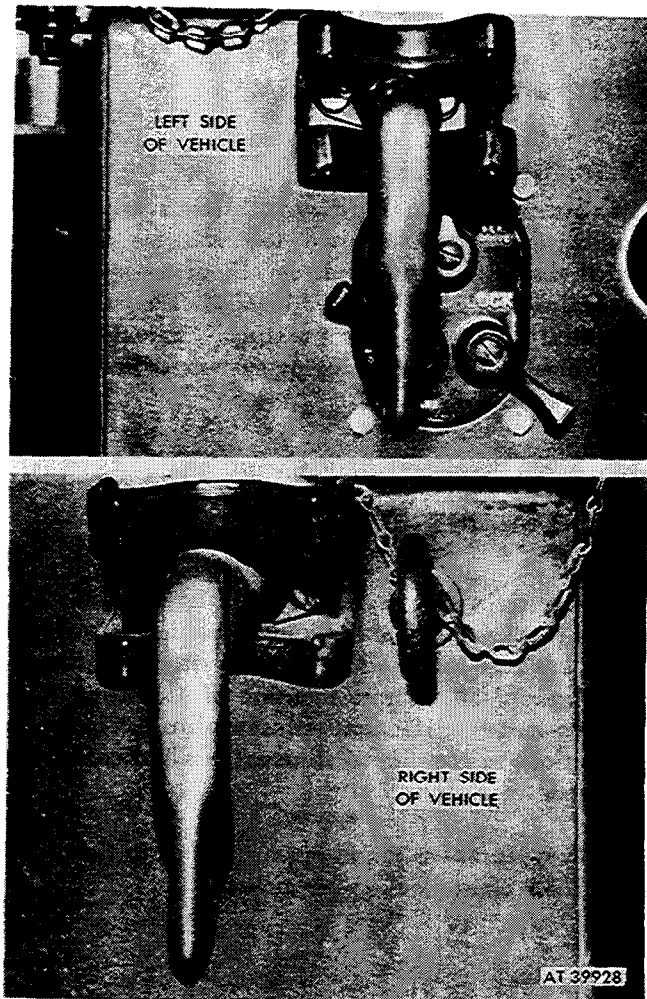
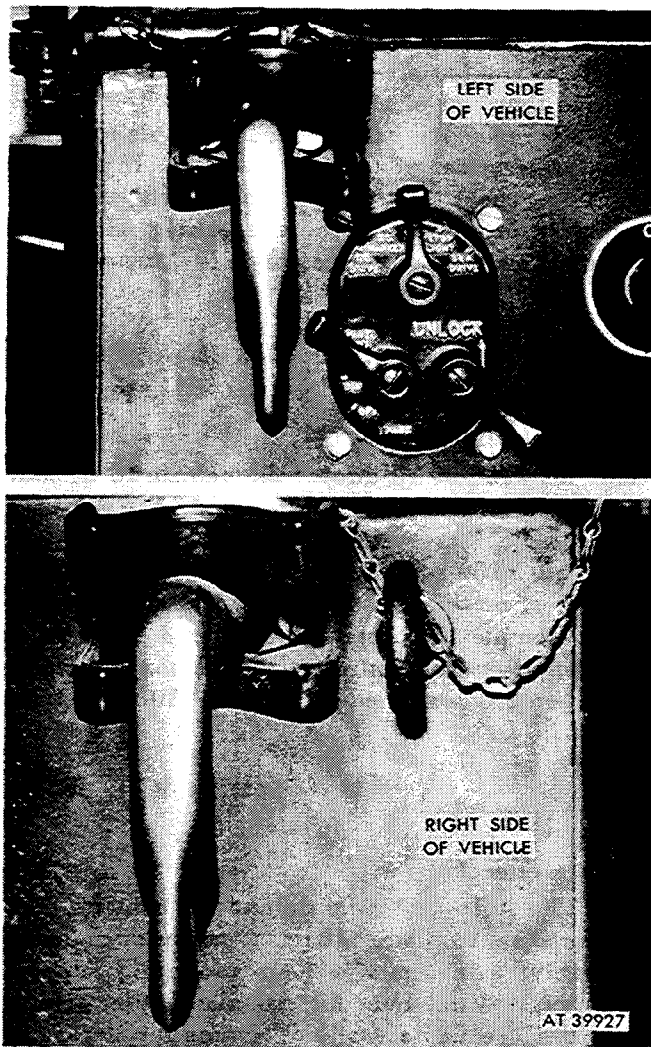

Figure 3-33. M16 / F4 rifle mount kit—installed, left and right side (softtop vehicles).
Figure 3-34. M16 / F4 rifle mount kit—installed, left and right side (hardtop vehicle).
a. The M16 / 14 rifle mount kit consists of a reinforcement plate, bracket mounting catch assembly, catch, and a floor mounting support assembly. With this kit installed, the vehicle provides a readily accessible location for storage of the M16 and M14 rifle. Refer to figures 3-33 and 3-34.
left and right side as indicated in figure 3-33. Due to door channel installation on vehicles equipped with hardtop kit, the rifle kit is located as indicated by figure 3-34. Where location of mounting holes necessitates different instructions, these instructions will refer to illustrations indicating the different locations.